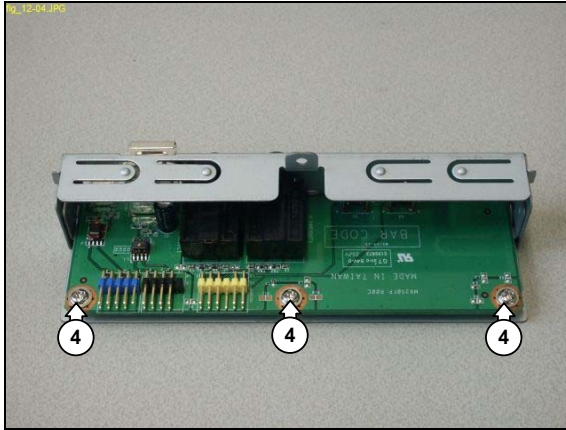

Figure 12.12-4
2. Remove the 3 mounting screws (4) from the FP I/O board. See Figure 12.12-4.